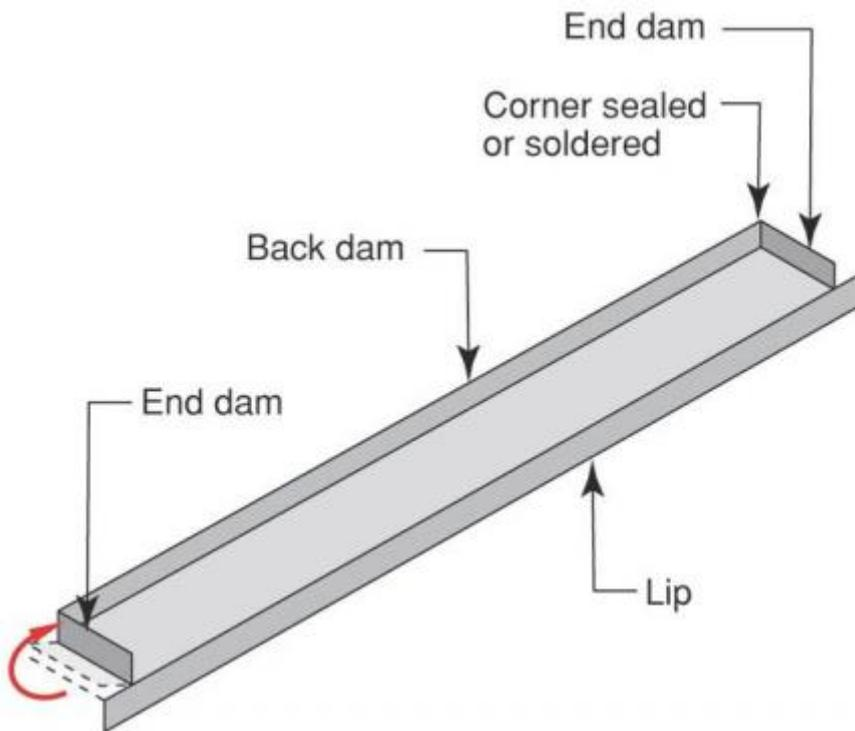

Figure 10 - Sheet metal pan flashing for doors.
4. Install pan flashing that is integrated with the housewrap. ASTM E2112-07 recognizes several flashing materials and methods, including single-piece sill pans formed from rigid sheet metal (see Figure 10) , multi-piece sill pans formed from rigid sheet metal or plastic, flexible membrane, or combinations of rigid corners connected by flexible membrane.